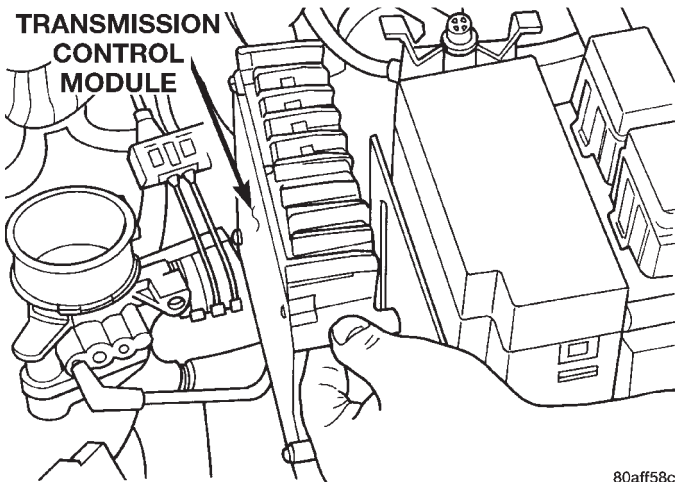

Fig. 49 Transmission Control Module
- (2) Remove air cleaner duct.
- (3) Remove transmission control module (TCM) and wiring (Fig. 49).